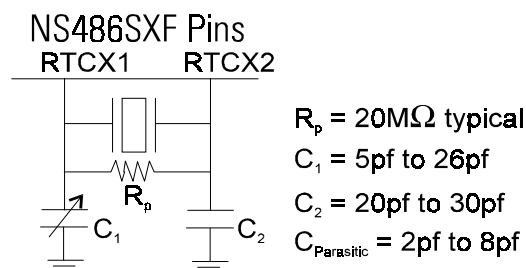

Figure 3-28 Oscillator External Circuitry
Figure 3-28 represents the external circuitry that is required for the NS486SXF RTC oscillator. The oscillator input may be driven from an external source. If this is desired, the input should be driven rail to rail and be approximately a 50% duty cycle. The oscillator output should be open in this case. The external capacitor values should be chosen to provide the manufacturer's specified load capacitance for the crystal when combined with the parasitic capacitance of the trace, socket, and package, which can vary from 2 to 8 pF. The rule of thumb in choosing these capacitors is:
4) The parasitic resistance of the board combined with the parallel resistance (shown in Figure 3-28) should equal 20 M Ohm. This value is critical for the proper operation of the oscillator circuitry.